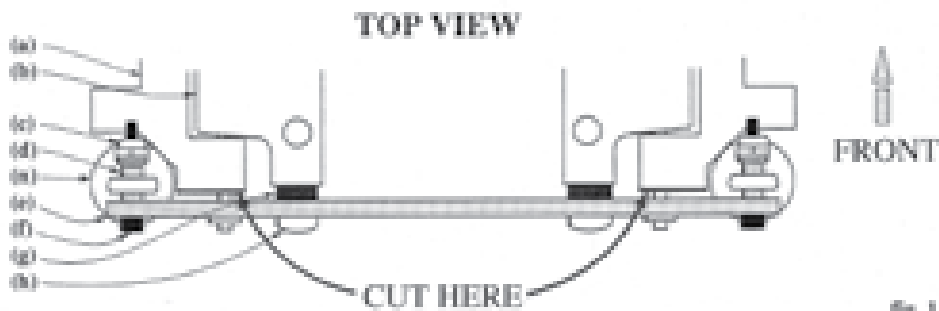

Fig. 1
STEP 2 If you have not already done so, cut off the left and right "A" arms (a) with a saw or Dremel where shown as the bold line in fig. 1.